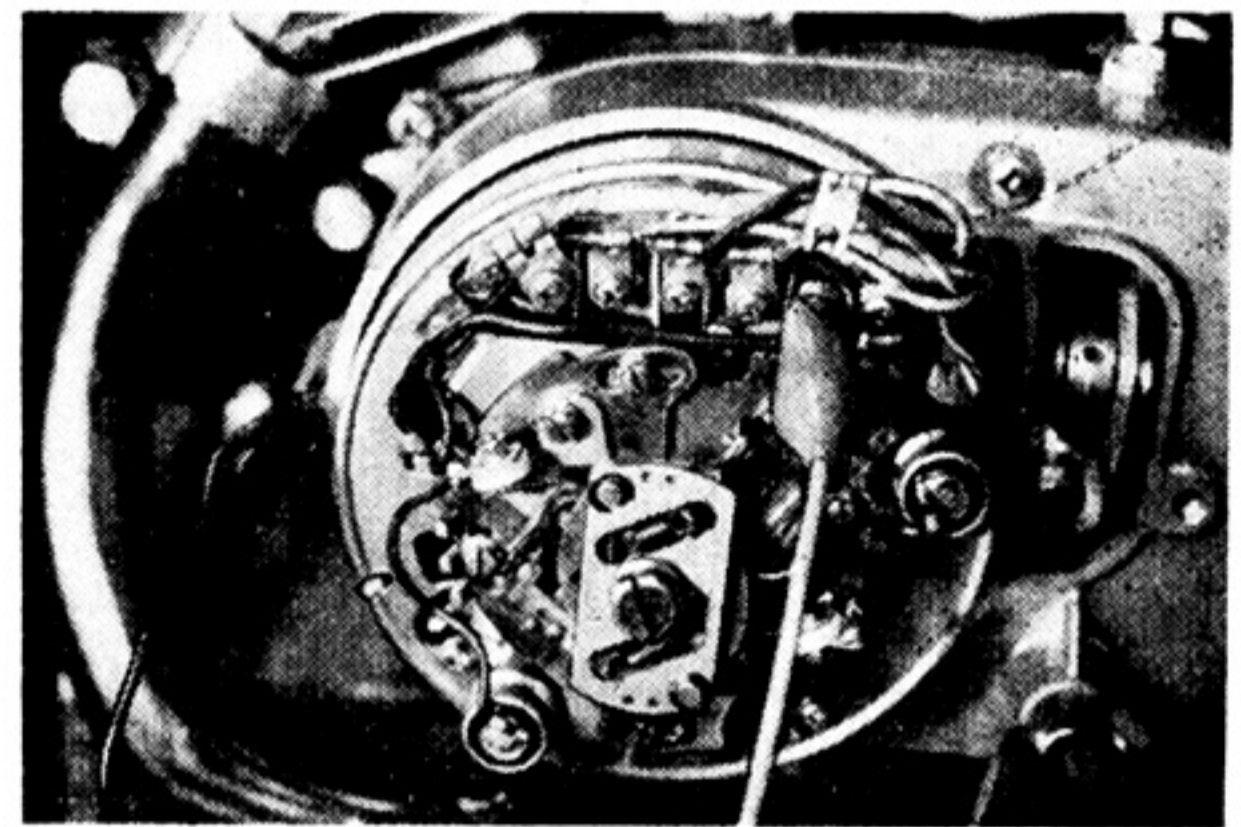

Fig. 5-5-3
- Disconnect the lead from the dynamo A terminal, and connect the tester positive lead to the A terminal, then ground the negative lead to the frame. (Fig. 5-5-3)